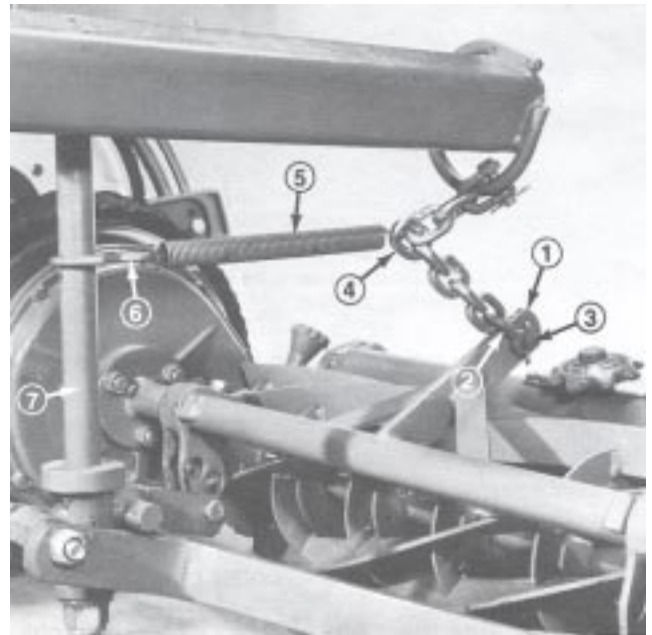

Figure 17
5. On remaining mowers, secure lift chains to mower mounting bracket with long shackles, clevis pins and cotter pins (Fig. 17).
6. Hook spring to fifth link in chain from mower and secure other end of spring to lift bail with S-hook (Fig. 17).